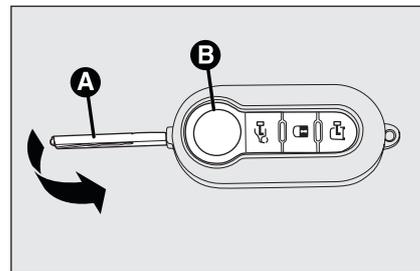
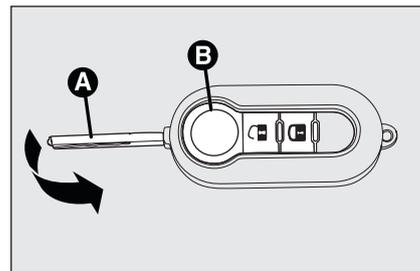
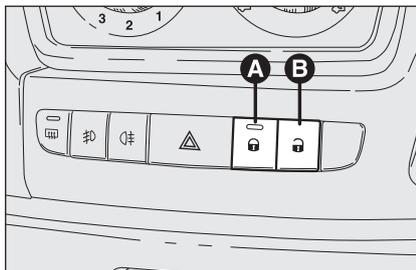

fig. 107
fig. 108
fig. 110
With the doors closed, press the button  on the remote control **fig. 107** or fit and turn clockwise the metal insert into the driver's door lock.
Door locking is only possible if all the doors are closed. Opening one or more doors by pressing the button  on the remote control **fig. 107**, will make the direction indicators and the button led **A**-**fig. 110** flash quickly for about 3 seconds.
With this function active, buttons **A** and **B** **fig. 110** are disabled.
Pressing twice briefly the button  on the remote control **fig. 107** will engage the dead lock device (see paragraph "Dead lock device").
Briefly press button  **fig. 107** or  **fig. 108**, according to versions, to obtain remote door unlocking, timed ceiling light turning on, directions indicator double
Press button **A-fig. 110** to lock and press button **B** to unlock the doors. Block/release actions are carried out centrally (front and rear). When doors are locked the button led **A** is on and pressing the button **B** will obtain central unlocking of the doors and turning off of the led. When doors are unlocked, the button led is off and pressing the button will obtain central locking of the doors. Door locking is activated only if all the doors are perfectly closed.
it will not be possible to unlock the doors by pressing button **A-fig. 110**.
- locking/unlocking buttons **A-B fig. 110**;
The dead lock device is automatically activated on every door when pressing twice briefly the remote control button , **fig. 107**.
Device activation is indicated by 3 flashing of direction indicators and flashing of the button led **A-fig. 110**.